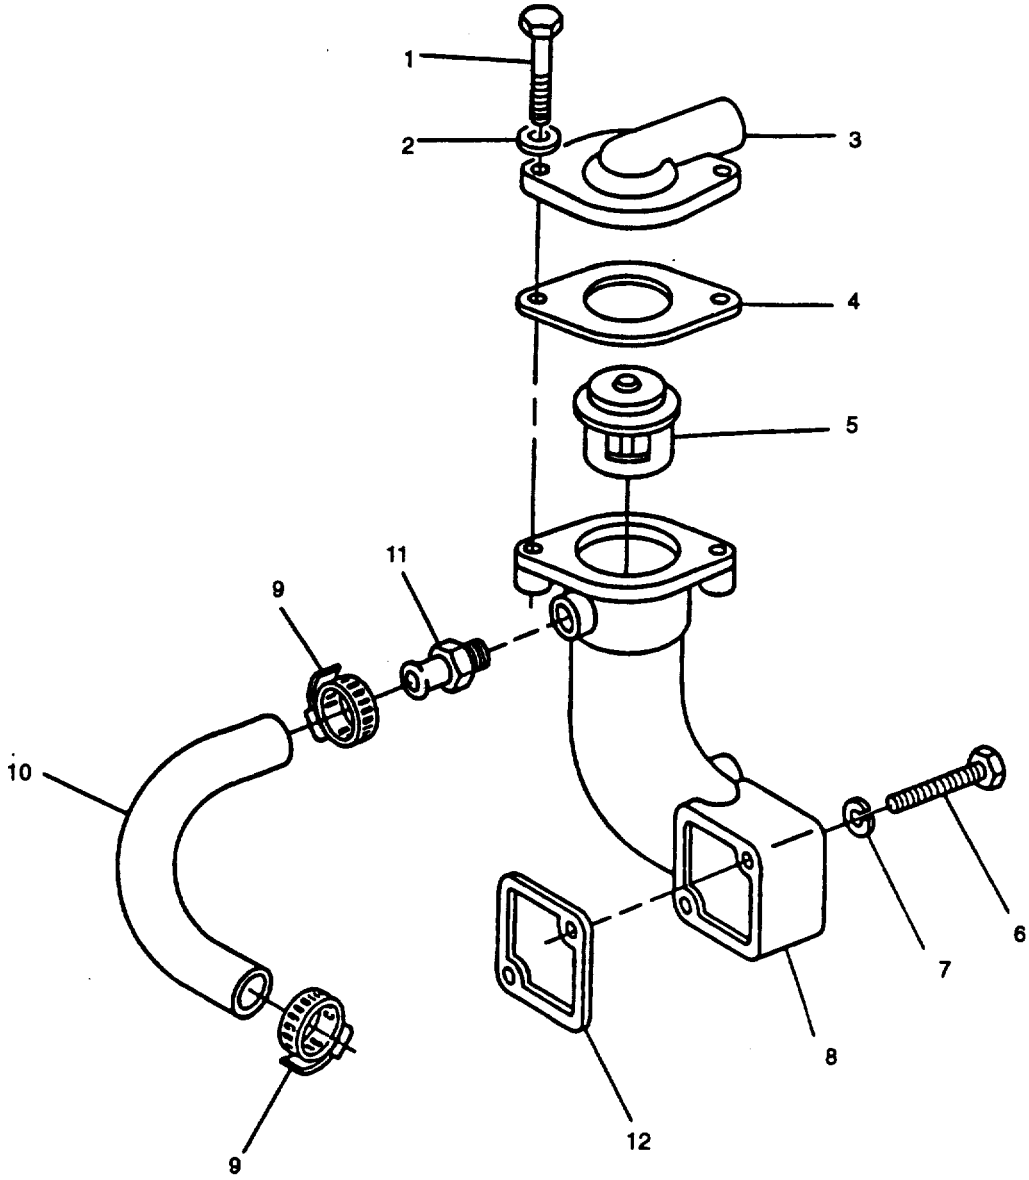

FIGURE 3-2. Thermostat and Housing
- b. Loosen hose clamp and remove outlet hose from cover (3, FIGURE 3-2).
- c. Remove two capscrews (1), and lockwashers (2) securing cover (3) to housing (8); remove cover (3) and gasket (4). Discard gasket (4) and lockwashers (2).
- d. Lift thermostat (5) from housing (8).
- e. Loosen two hose clamps (9) and remove by-pass hose (10) from housing adapter (11) and water pump housing.
- f. Remove two capscrews (6) and lockwashers (7) securing housing (8); remove housing (8) and gasket (12). Discard gasket (12) and lockwashers (7).
- b. Install adapter (11, FIGURE 3-2) in housing (8).
- c. Position housing (8) and new gasket (12) on engine and secure with two capscrews (6) and new lockwashers (7). Tighten screws to 35 ft-lbs (47 Nm).
- d. Install by-pass hose (10) on adapter (11) and water pump housing and secure with two hose clamps (9).
- e. Apply a thin coat of sealing compound (FORMAGASKET2) on thermostat housing (8) and cover (3).
- f. Position thermostat (5) in housing (8).
- g. Position cover (3) and new gasket (4) on housing (8) and secure with capscrews (1) and new lockwashers (2). Tighten screws to 20 ft-lbs (27 Nm).